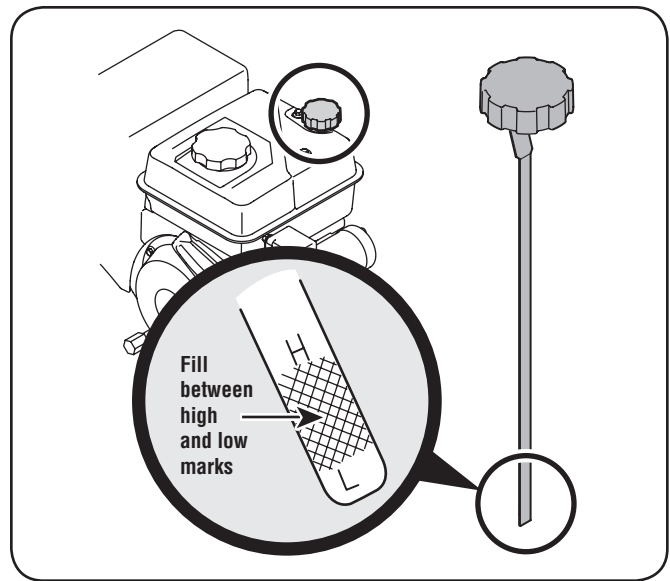

Figure 3-8
1. Remove the oil filler cap/dipstick and wipe the dipstick clean. See Fig. 3-8.
3. Remove the oil filler cap/dipstick. If the level is low, slowly add oil until oil level registers between high (H) and low (L), Fig. 3-8. Refer to the Engine Maintenance section for correct oil viscosity and engine oil capacity.